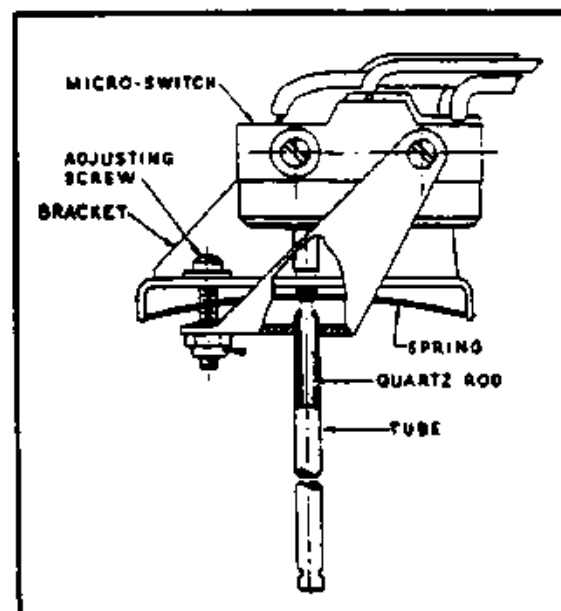

Figure 13-9. Flame Detector Switch
**13-21. FLAME DETECTOR SWITCH.** The purpose of the flame detector switch is to shut off the igniter and fuel preheater as soon as combustion has been established within the heater, and to provide a "purge" cycle after the heater is shut off. This switch consists of a hollow probe upon which is mounted a bracket and micro switch mechanism. The hollow probe contains a quartz rod which has a low rate of expansion when heated. (Refer to Figure 13-9.) The end of the quartz rod actuates the plunger of the micro switch. A leaf spring between the rod and plunger is provided to maintain a pressure through the rod against the end of the tube.
- b. Back off the adjusting screw (Refer to Figure 13-9.) until the switch clicks.